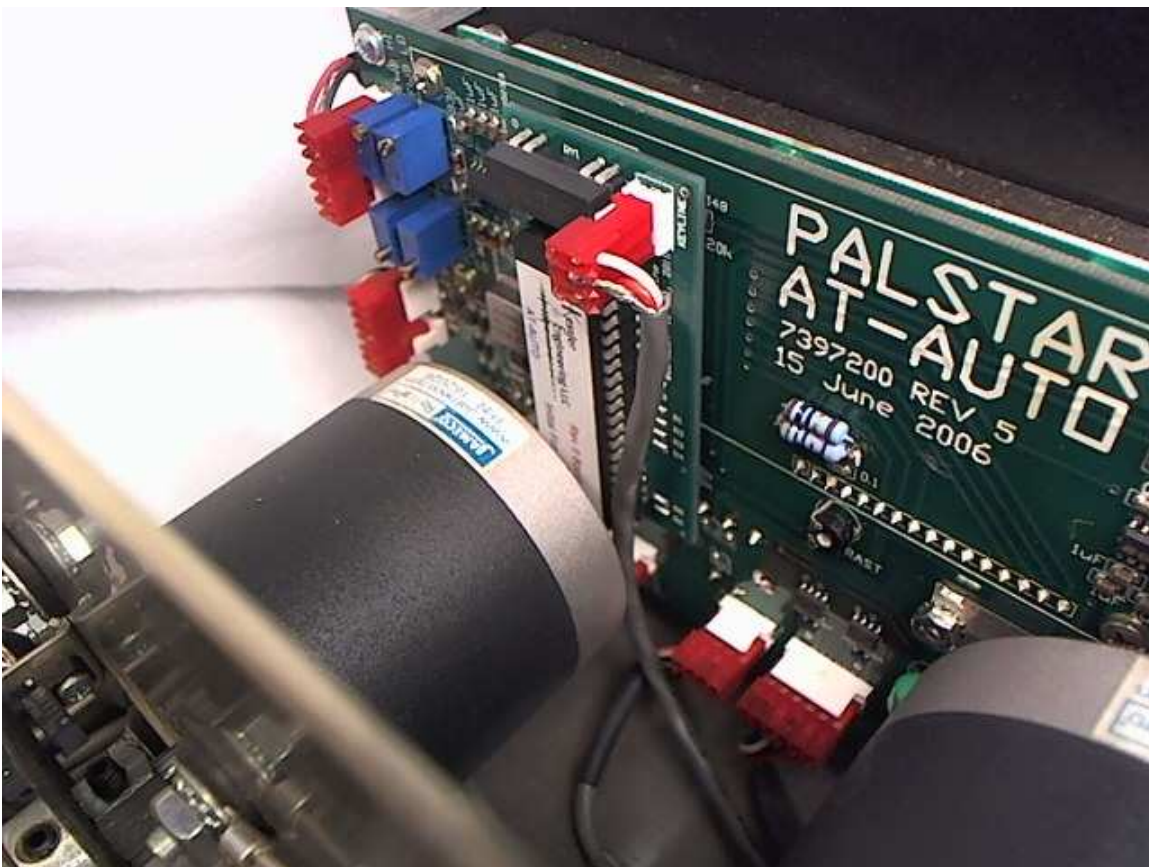

Figure 1.10: AT-AUTO_(tm) Wiring Harness Plug-In
2. Locate the wiring harness and attach the red connector to the Daughterboard as shown in Figure 1.10.